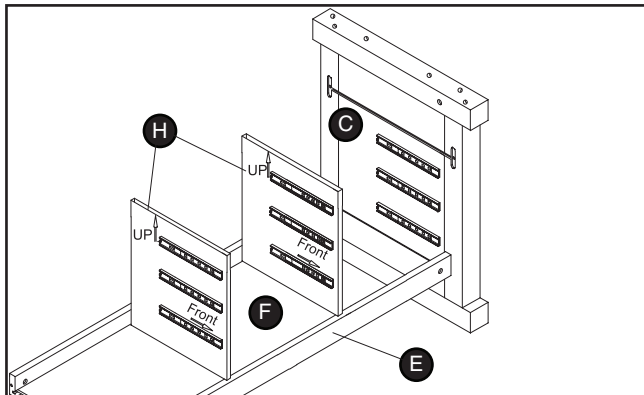

Figure 14. Drawer support installation.
8. Insert both central drawer support panels (H) (Figure 14) into the cross brace (E) slots.